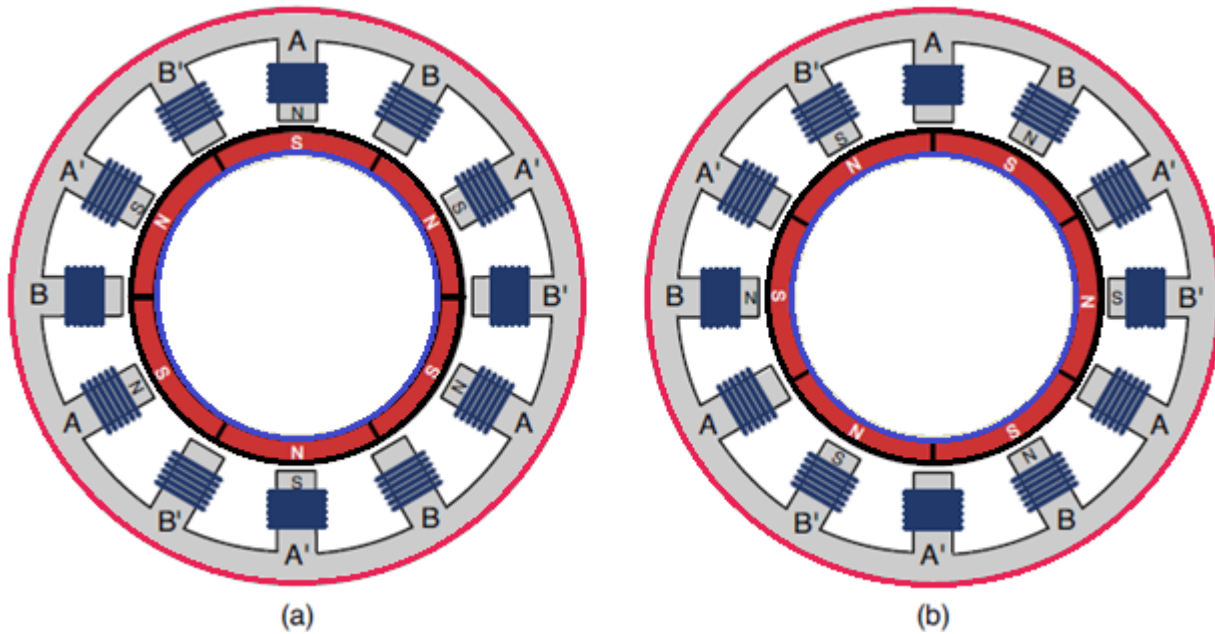

Fig 3.4: 30° rotation of a PM stepper motor
- Here, positive current implies a north pole and negative current implies a south pole. Figure 3.4 illustrates a single turn (30° rotation) of a PM stepper motor.
- If a winding doesn't have an N or S, it isn't receiving current. In Figure 3.4 a, A is positive (North Pole), A' is negative (South Pole), and Phase B isn't energized.
- In Figure 3.4 b, B is positive (North Pole), B' is negative (South Pole), and Phase A isn't energized.